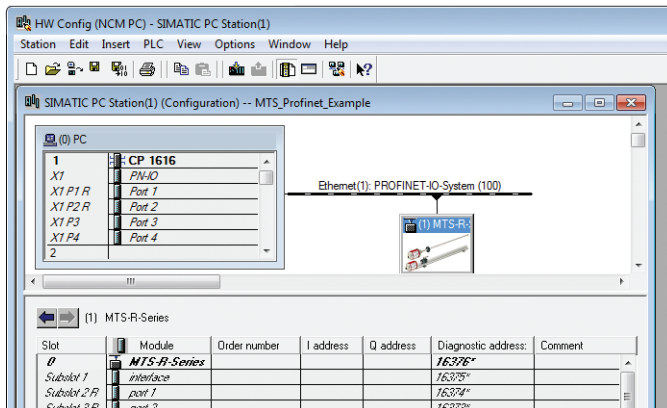

Fig. 46: Add sensor to the network (source: Siemens)
2. While keeping the left mouse key pressed, draw the MTS sensor with Encoder profile 4.1 from the directory into the network (dashed line) and release the left mouse key. The sensor has been added to the network (Fig. 46).